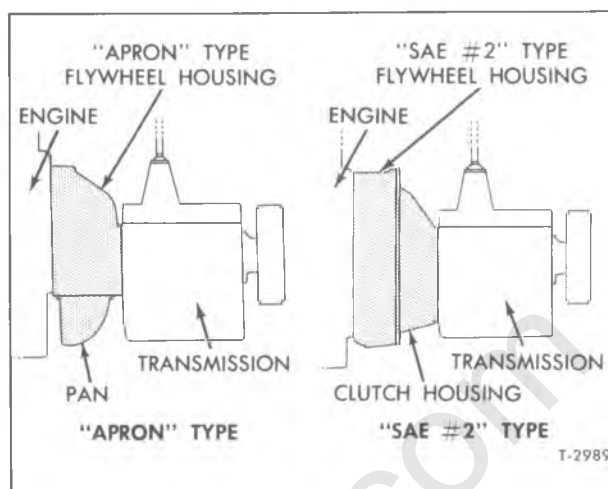

Figure 1—Flywheel Housing Identification
It is important to note that vehicles covered by this manual will have either an "Apron" or "S.A.E. #2" type flywheel housing as shown in figure 1. The "apron" type flywheel housing is easily identified by the sheet metal pan which covers the entire lower portion of the clutch housing. Note lack of a separate clutch housing.
a. Apron Type Flywheel Housing - Remove bolts retaining transmission to "Apron" type flywheel housing (refer to fig. 1).